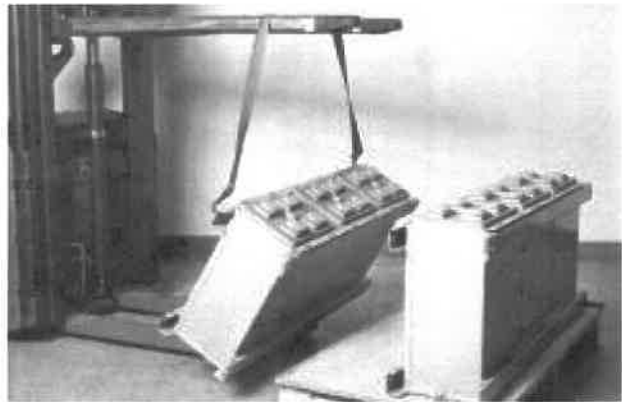

Figure 4: Lifting the module clear of the pallet
- f) using the lifting device raise the module just clear of the pallet, see Fig 4 and place it vertically on the floor.